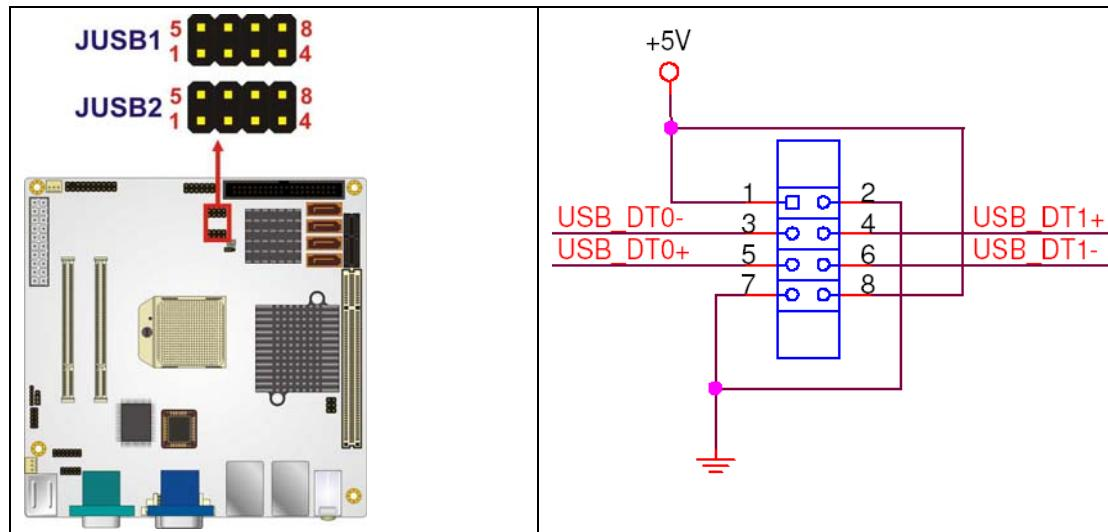

Figure 4-15: USB Connector Pinout Locations
4.2.14 USB Connectors (Internal)**CN Label:** JUSB1 and JUSB2**CN Type:** 8-pin header (2x4)**CN Location:** See Figure 4-15**CN Pinouts:** See Table 4-16